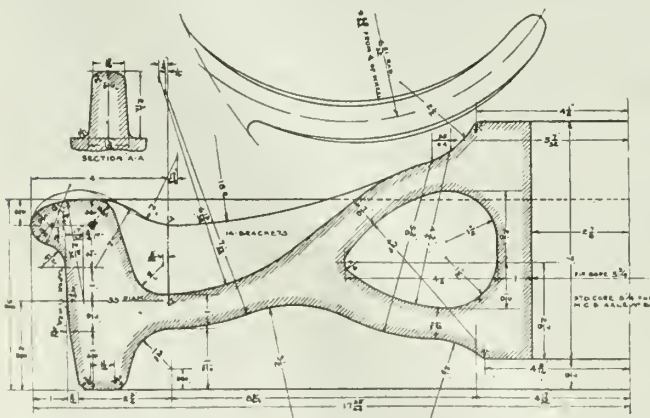

FIG. 8. WHEEL OF 675 LBS. PROPOSED BY THE A.M.C.C.W. FOR ALL CARS OF LESS THAN 40 TONS CAPACITY.
- drawings of which are shown in Figs. 8, 9 and 10 respectively.